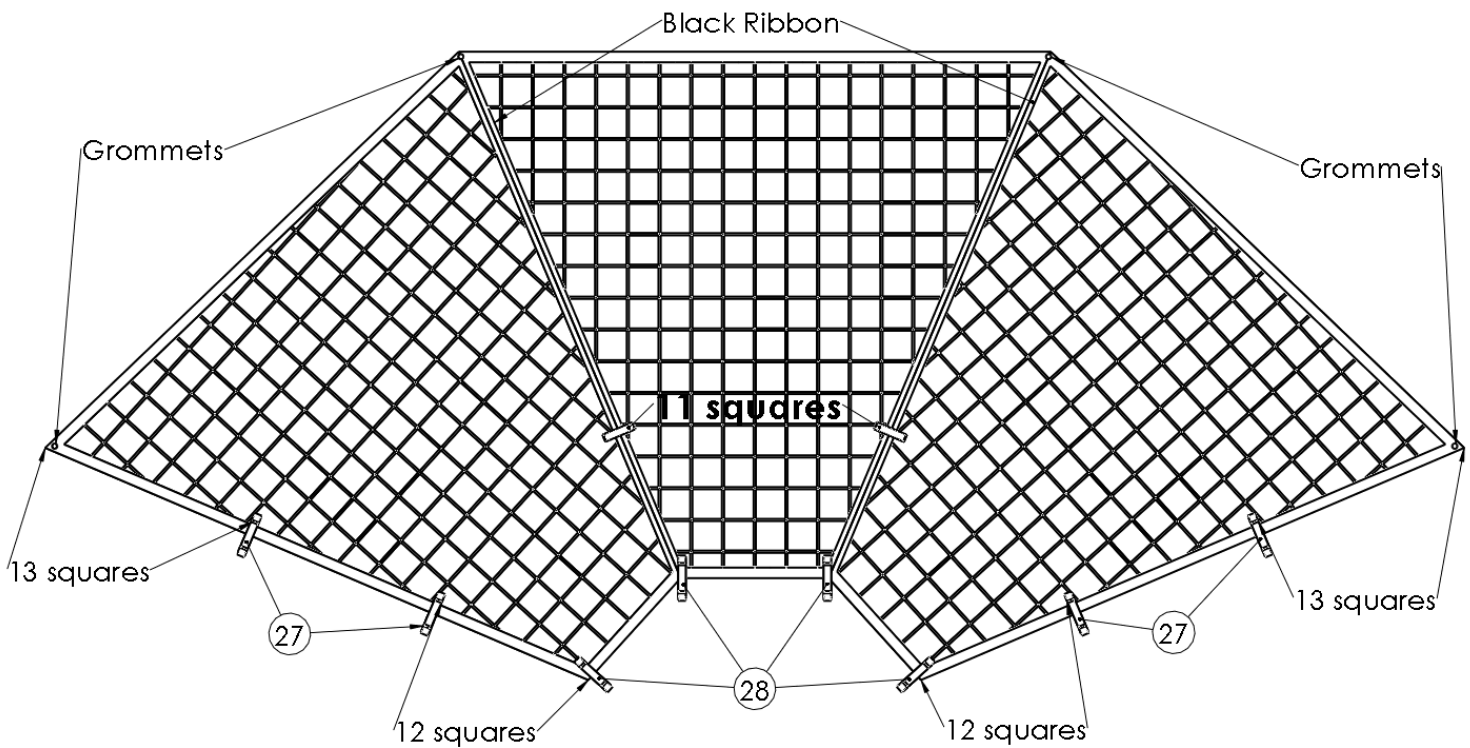

Fig . 10
- A: Lay out net (3) on a flat surface with the black ribbon facing down.
- B: Loop Long Velcro (28) to the bottom four corners. See figure 10.
- C: Loop two of the short Velcro (27) 11 squares up from the bottom on the center net panel.
- D: Loop Short Velcro (27) 12 squares up from the bottom on the left and right side.
- E: Loop Short Velcro (27) 13 squares down from the top on the left and right side.